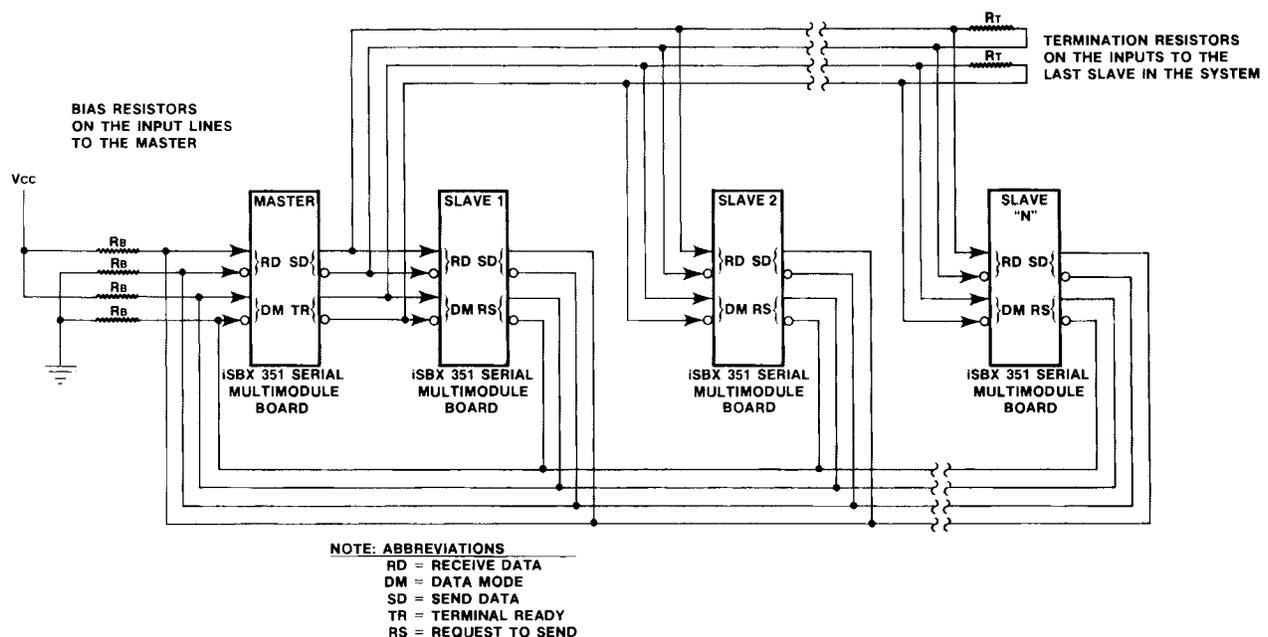
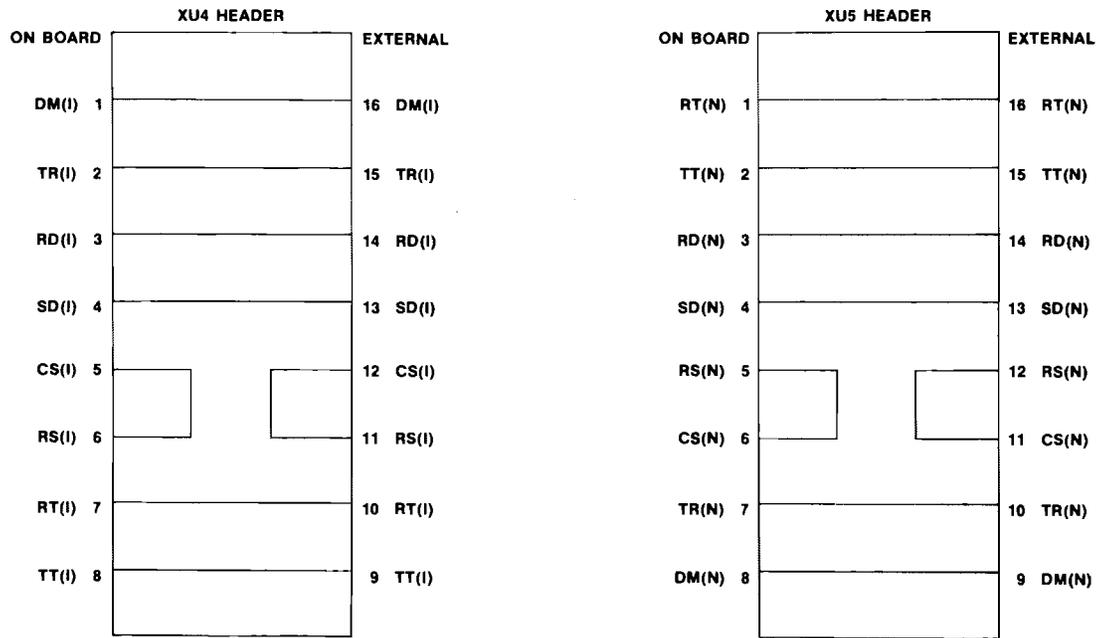

Figure A-1. Full-duplex RS422 Multidrop Configuration Block Diagram
Figure A-5. Master Header Wiring Diagram
Each of these considerations will be discussed in detail in the following text. Figure A-1 shows a block diagram of the configuration that will be used as an
Figure A-1 shows a typical RS422 full-duplex multidrop configuration that assumes only one master station is attached to the system and always drives the output lines. Bear in mind that a full-duplex system allows all slaves to listen to the data line, and to perform some task in parallel with a task performed by another slave, however, only the selected slave may transmit to the master. In this example, there may be any number (n) of slave stations attached, however, the slaves are under strict program control to output only on command from the master.
In this example, each Multimodule board contains two header blocks, in locations XU4 and XU5, that must be wired properly. Figures A-5 and A-6 show the header wiring required for the master and slave units to perform the functions shown in figure A-1. More information on header block wiring may be found in Chapter 2 of the text.
As shown in figure A-1, a simple cross-over is performed in the external wiring with the Receive Data (RD) input to the master and the Send Data (SD) output from the slave. Another is performed between the Data
With an RS422 multidrop application, it is strongly recommended that the open or floating data lines in the system be biased by means of user supplied bias resistors, as shown in figure A-1. Without the resistors, the state of a floating line cannot be guaranteed. The exact value of the bias resistors may be calculated only on an individual application basis since the controlling parameters will vary from one application to another. The following procedure steps through an example for calculating bias resistance in a full-duplex RS422 multidrop application.
To calculate the size of the bias resistors (R_B) for the example shown in figure A-1, proceed as follows:
With an RS422 multidrop application, it is strongly recommended that the inputs to the slaves be terminated as shown in figure A-1 to reduce the line reflection. The exact value of the termination resistors can be calculated only on an individual application basis since the contributing parameters will vary from one application to another. The following text shows an example of how to calculate termination resistance for a full-duplex RS422 multidrop application.
To calculate the size of the termination resistors (R_T) for the example in figure A-1, assume the following: